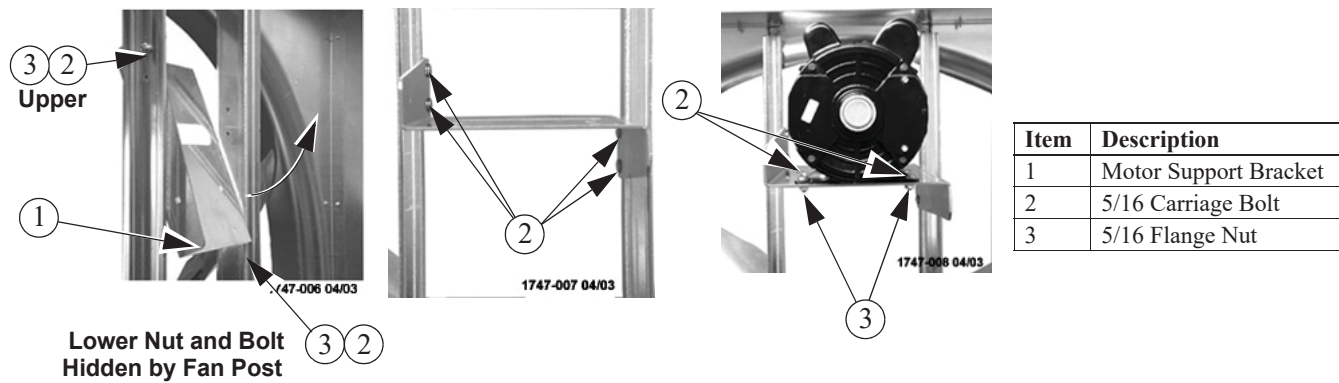

Figure 9. Attaching the Motor Support Bracket and Motor
Rotate the Motor Support Bracket into the upright position by removing the **Upper** Carriage Bolt and Nut and loosening the **Lower** Bolt and Nut (**See Figure 9**). Rotate the Motor Support Bracket until it is perpendicular to the Fan Posts and fasten with (4) 5/16 Carriage Bolts and (4) 5/16 Flange Nuts. *Note that the Nuts go outside the Posts.* Remove the Motor from the Crate and attach it to the Motor Support Bracket with (4) 5/16 Carriage Bolts and (4) 5/16 Flange Nuts **as shown**.